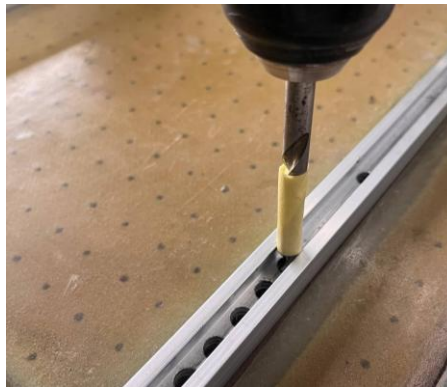

Figure 7: Locating hole drilling.
Step 5: Using a drill fitted with the 8mm bit prepared in the previous step, drill all the locating holes from the top, passing through the rail (locating hole), floor and the inspection hatch. Drill carefully to avoid going past the 25 mm limit and damaging components beneath the floor. Pay extra attention when drilling through the inspection hatch to prevent damage to any components below. Ensure the drill bit remains upright to avoid damaging the inner sides of the rails. Refer to Figure 7.